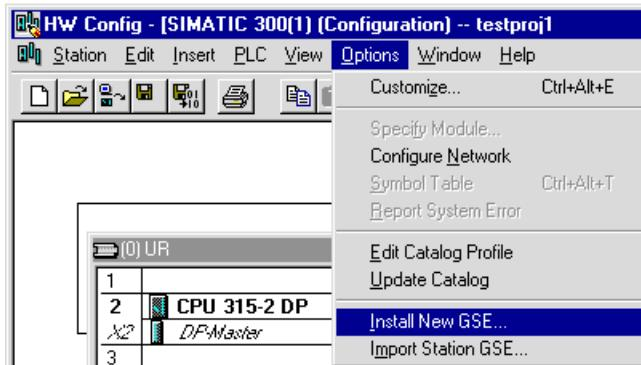

Figure 2.6 Installing a new GSD
- Select X2 "DP-Master" in the subrack (see Figure 2.6 in the "(0)UR" subrack).